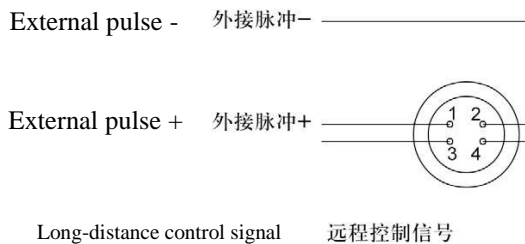

图 4 Fig. 4
- ✓ 远程控制接口：接口信号为干接点的开关信号，常开运行或常闭运行可选。（如图4）Long-distance control interface: the interface signal is switching signal for dry contact. It is optional for normal open or normal close (as shown in Fig.4)